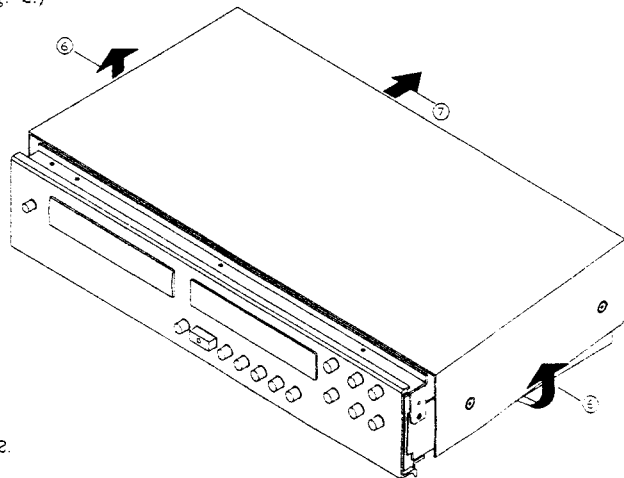

Fig. 2.
2. pull both sides of TOP COVER outward and turning about 35° (shown as arrow ⑥) then remove as arrow ⑦ show. (See Fig. 2.)